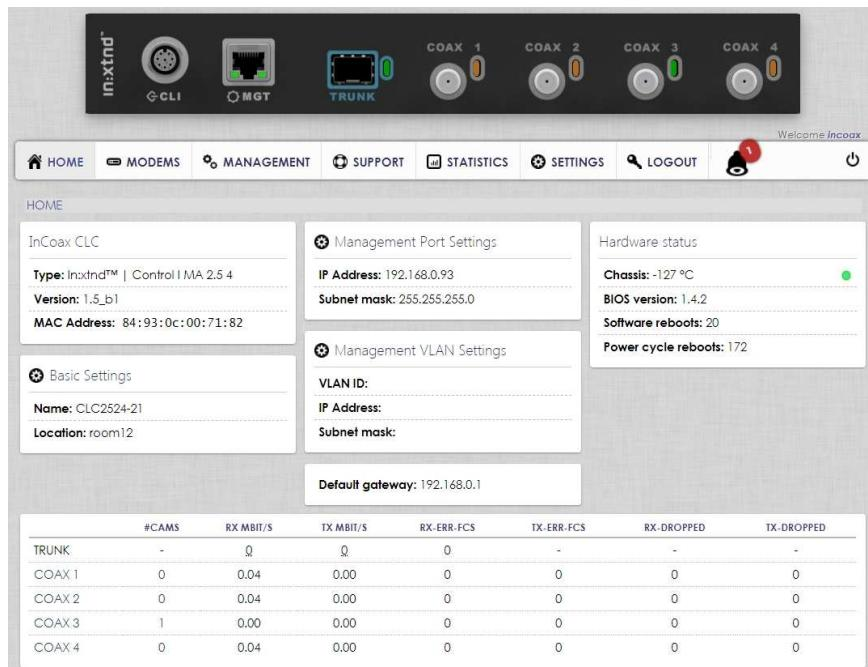

Figure 5 — Web page Home for the Controller.
The **HOME** tab in *Figure 5* is shown after the login is completed. It displays the basic configuration parameters (**LAN Settings** and **Management VLAN Settings**), some status information, and some statistics.
- The table in the lower part of *Figure 5* provides a quick performance overview of the *Controller*.